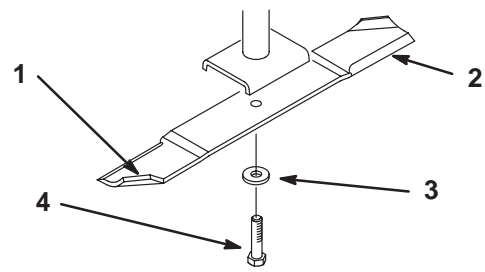

Figure 27
Hold the blade end using a rag or thickly-padded glove. Remove the blade bolt, spring disk, and blade from the spindle shaft (Fig. 27).
2. Check the balance of the blade by putting it on a blade balancer (Fig. 29). If the blade stays in a horizontal position, the blade is balanced and can be used. If the blade is not balanced, file some metal off of the end of the sail area only (Fig. 27). Repeat this procedure until the blade is balanced.
1. Install the blade onto the spindle shaft (Fig. 27).
2. Install the flat washer, lock washer, and blade bolt (Fig. 27). Torque the blade bolt to 85–110 ft.-lb. (115–150 N·m).